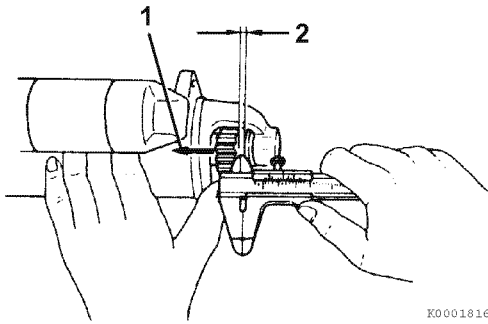
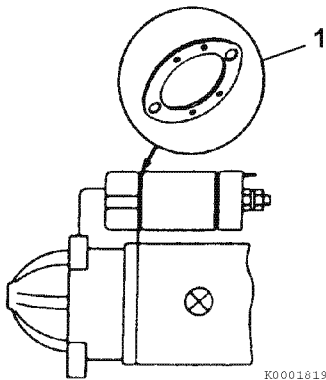

Figure 8-2
Figure 8-3
1. When the pinion is at the projected position, measure the gap (2, **Figure 8-2**) between pinion and pinion stop. This measurement should be made with the pinion pressed back lightly (1, **Figure 8-2**) to take up any play in engagement linkage. See *Specifications on page 8-4*.
2. If the measured dimension (2, **Figure 8-2**) is not within specifications, adjust the dust covers to obtain the standard range. Dust covers (1, **Figure 8-3**) are available in 0.020 in. (0.5 mm) and 0.031 in. (0.8 mm) thicknesses.